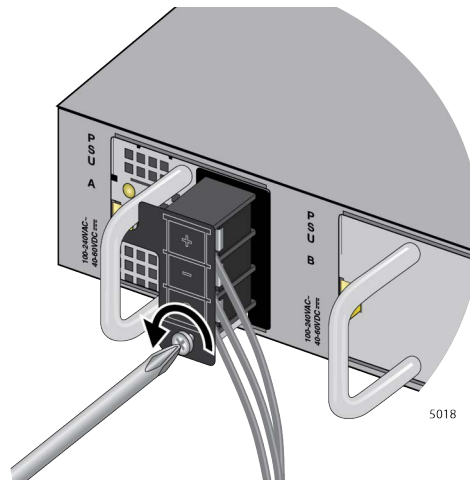

Figure 136. Loosening the Screw for the Panel
2. Loosen the screw for the connector panel with a Phillips-head screwdriver. Refer to Figure 136.